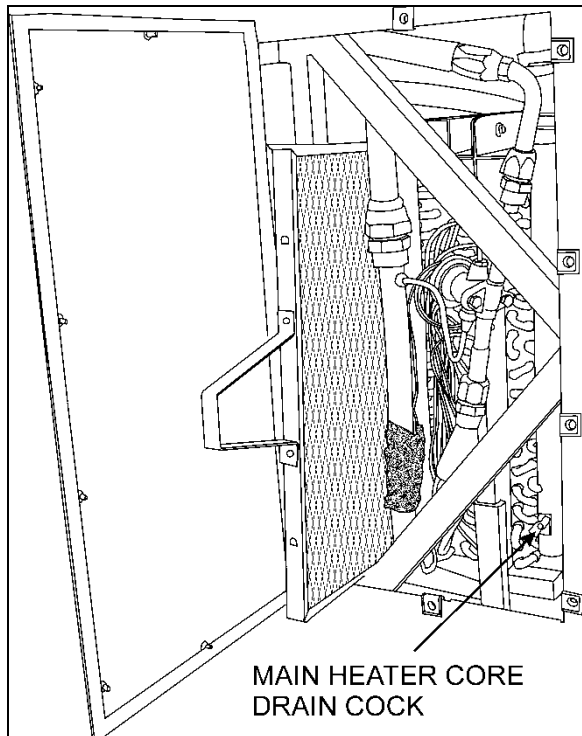

FIGURE 53: EVAPORATOR COMPARTMENT
4. Open drain cock in bottom of heater core, you can unfasten a hose connection on top of heater core (Figure 53) in order to allow air to enter while draining.